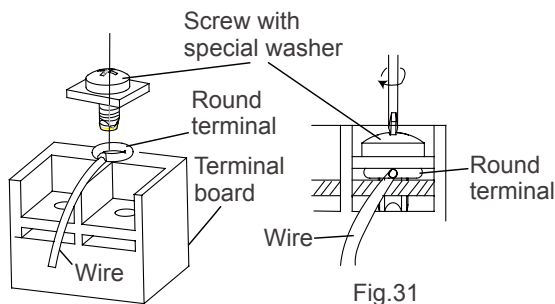

Fig.31
- (1). Cut the wire end with a wire cutter or wire-cutting pliers, then strip the insulation about 10mm (3/8").
- (2). Using a screwdriver, remove the terminal screw (s) on the terminal board.
- (3). Using a round terminal fastener or pliers, securely clamp a round terminal to each stripped wire end.
- (4). Position the round terminal wire, and replace and tighten the terminal screw with a screwdriver.(Fig.31)